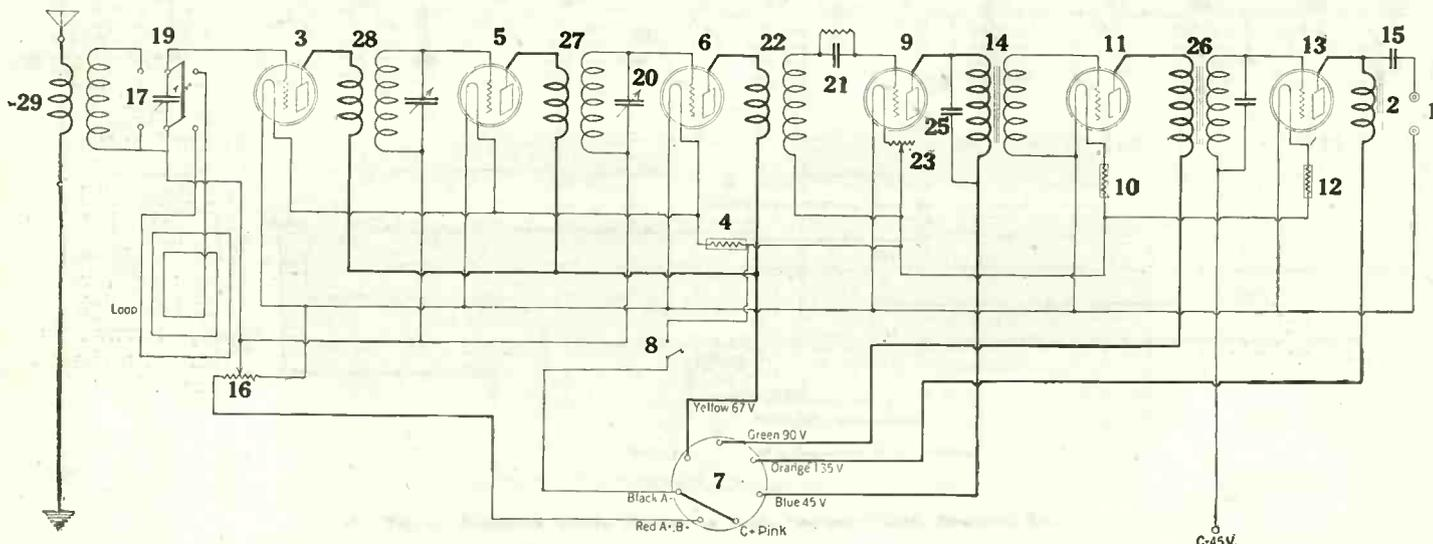

Fig. 3. Schematic wiring diagram of Radio Listeners' Guide Standard Six.
The next important requirement was that of selectivity. To meet this demand, the highly efficient Aero coils (27, 28, and 29) were used in a circuit consisting of two stages of tuned radio frequency, one stage of untuned radio frequency, a detector, and two stages of audio frequency. The Aero coils were used in the detector and tuned radio frequency stages and an Acme r.f. transformer (23) was used in the untuned stage, this being shown in the schematic diagram, Fig. 3. To add still further to the selectivity, shielding consisting of copper sheets was used between the coils.